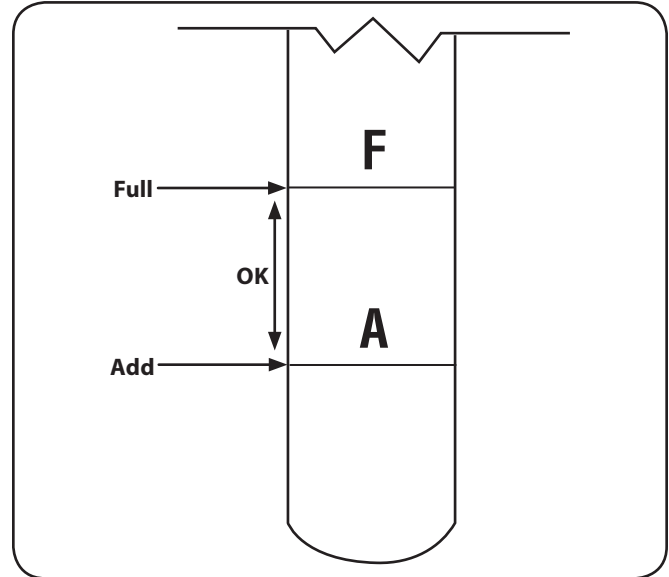

Figure 6-2
- Remove the dipstick and check the level. See Figure 6-2.
- Remove the oil fill plug/dipstick from the oil fill port and SLOWLY pour oil into the oil fill port. Fill the transmission case until the oil level reaches the "FULL" mark on the dipstick. Refer to Figure 6-2.